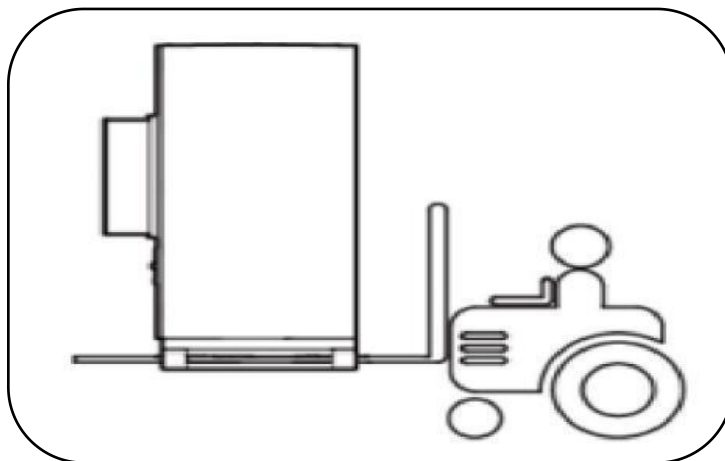

Figure 2 Equipment installation in place
- When using a forklift to move, ensure that the forklift has sufficient load capacity, and note that the center of gravity of the equipment needs to fall between the feet of the forklift, to prevent personal injury and equipment damage, as shown in the following figure 2.